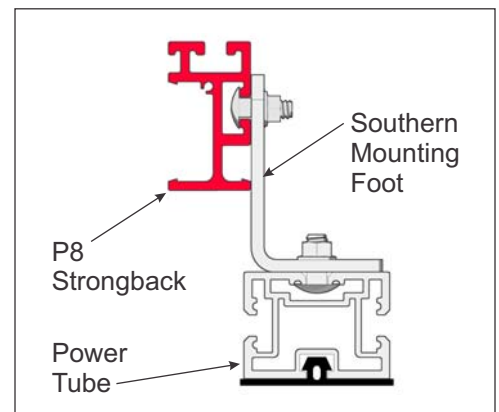

Figure 3-1: P8 Strongback Profile Orientation to South Mounting Foot
- A. Refer to Figure 3-1 for P8 Strongback profile orientation.